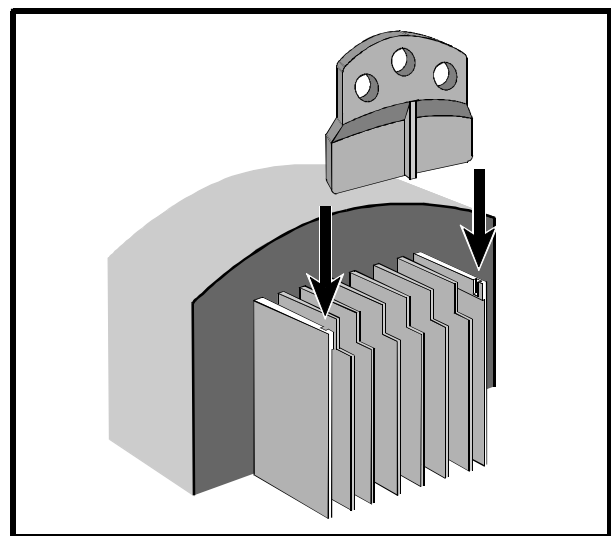

Figure 2–9 General representation showing the fitting of a surface mounting bracket in a heatsink
2. Insert the surface mounting brackets into the slots in the top and bottom of the Drive heatsink, as shown in Figure 2–9.